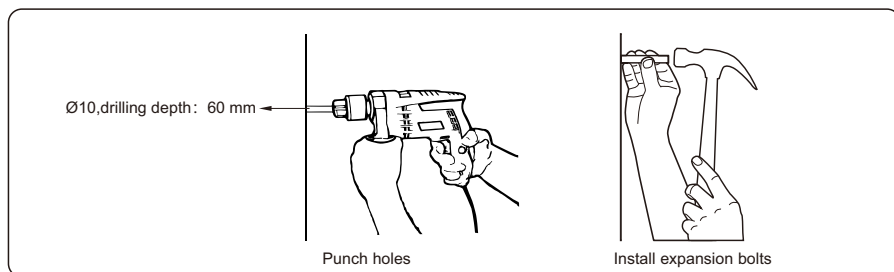

Figure 4.12 Punch holes and install expansion bolts (unit: mm)
Step 4 Drill holes using a hammer drill and install expansion bolts, as shown in Figure 4.12.